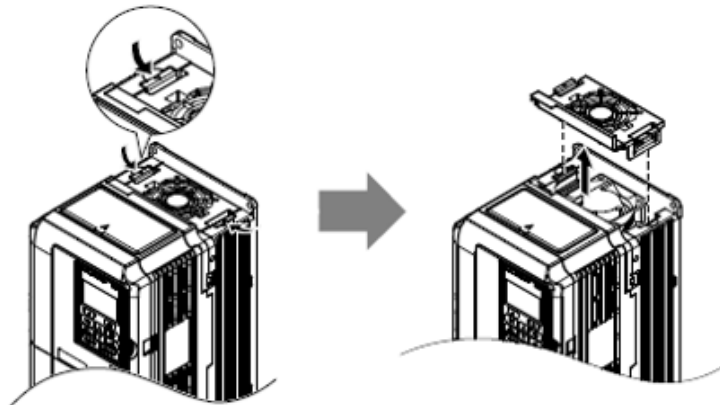

FIGURE 9-8 VFD Fan Removal
2. Depress the right and left sides of the fan cover tabs and pull upward. Remove the fan cover from the top of the drive per Figure 9-8, one (1) fan assembly shown, but the same procedure applies to two (2) fan assembly.